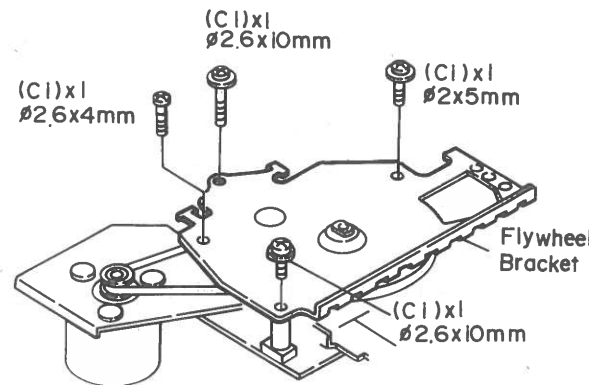

Figure 5-3
- How to remove the drive belt (See Figs. 5-3 and 5-4.)